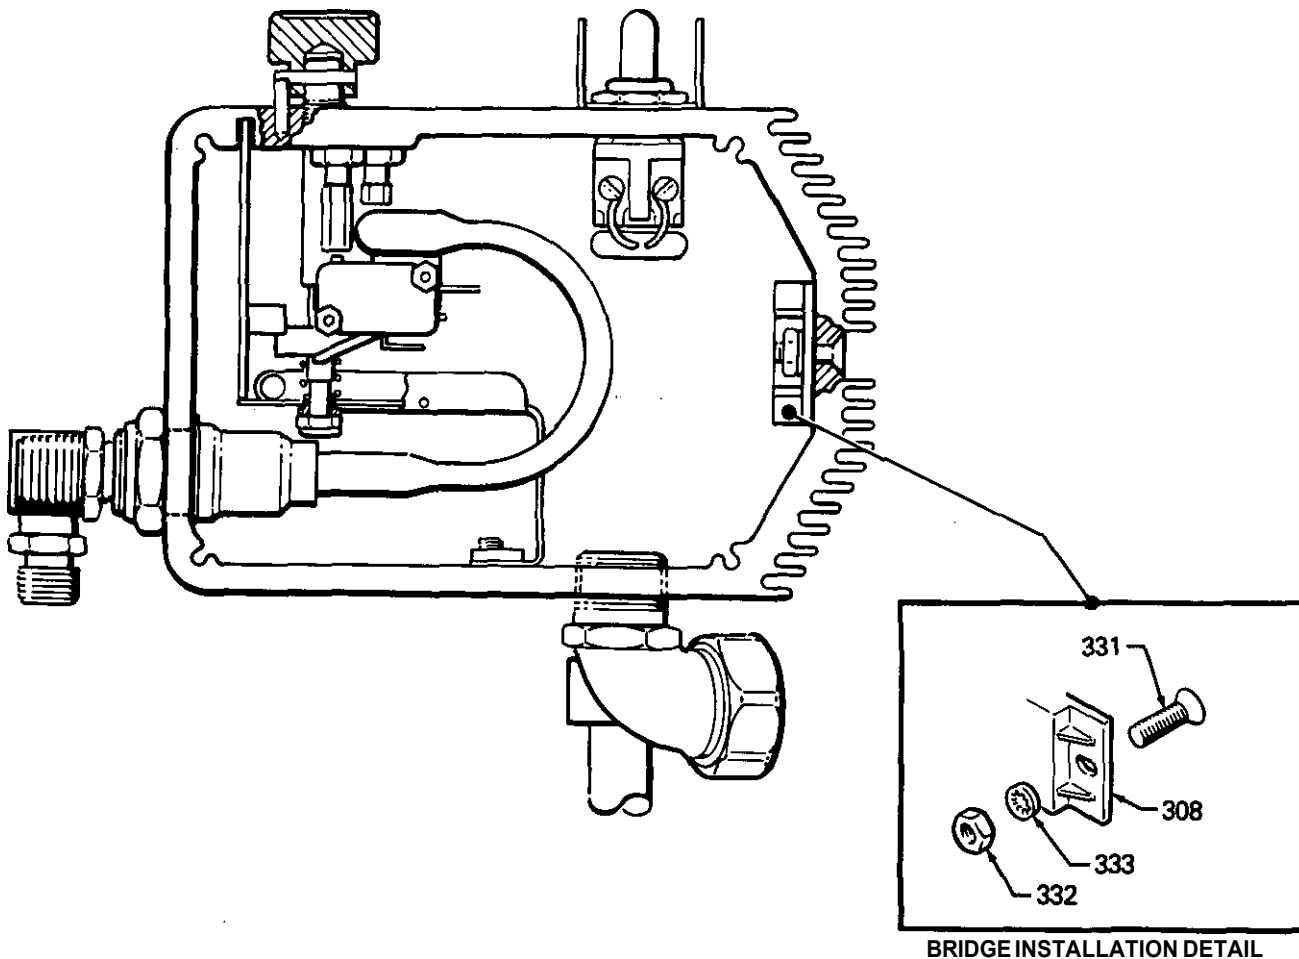

Fig 17
BRIDGE RECTIFIER REPLACEMENT (See Fig 17)
2. Disconnect all wires from the bridge (308) at the appropriate terminals.
3. Outside the pressure control box on the right side are two screws (331). **Loosen**, but don't remove the screw near the back mounting plate (89). Then loosen and remove the front screw. Slide the bridge out.
4. Slide the new bridge (308) into the box being sure the lockwasher (333) on the rear screw (331) is **IN FRONT** of the bridge. Refer to the Detail in Fig 17.
5. Install the front screw, lockwasher and nut (332).
The lockwashers (333) must be in front of the bridge to avoid overheating which will result in bridge failure. Refer to the Detail in Fig 17.